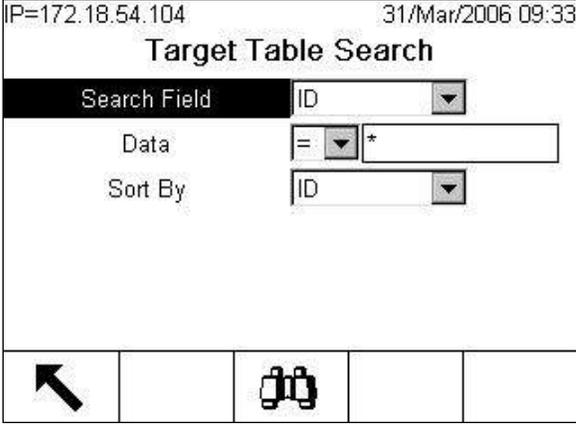

Figure C-21: Target Table Search Screen
1. From the main screen, press the TARGET TABLE softkey  to display the search screen as shown in Figure C-21.